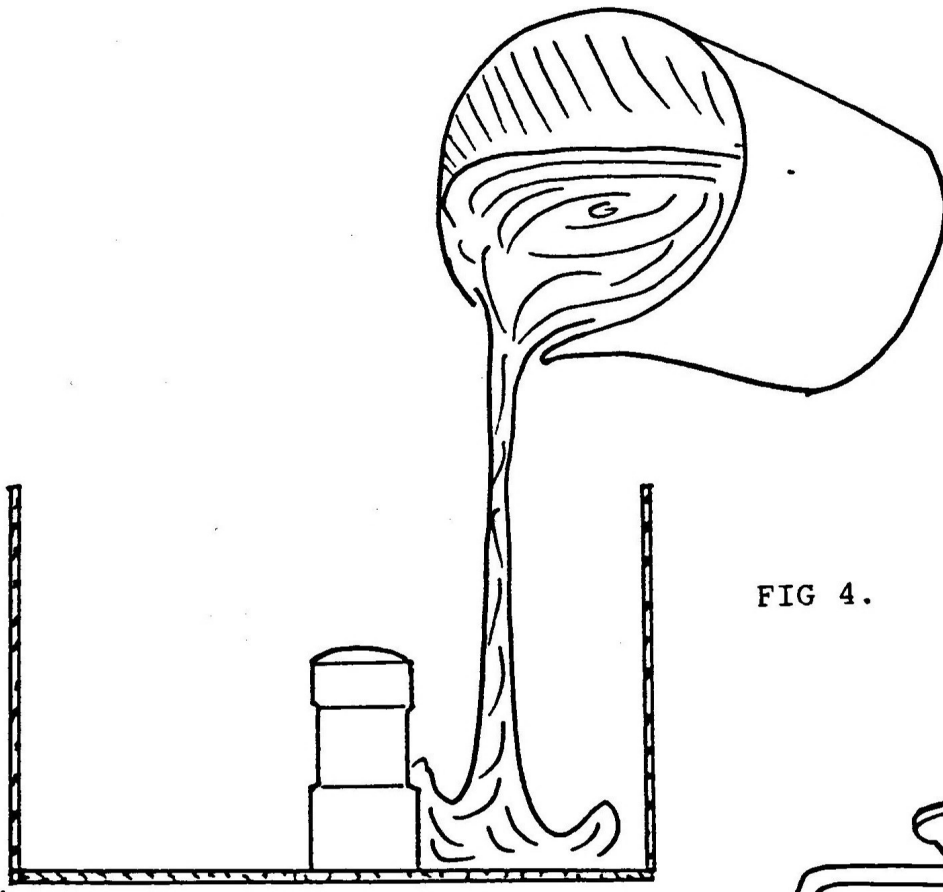

FIG 4.
- 6: Heat up the latex as directed and pour into the boxes with care. Leave for at least three hours to cool and harden.(fig 4)